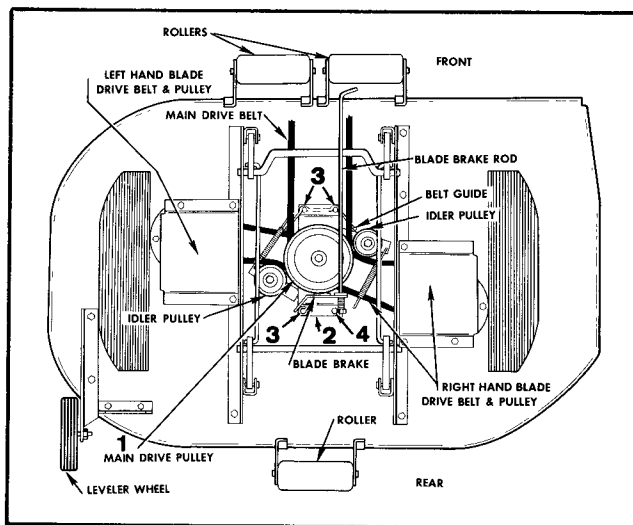

Figure 13. Mower Belt Installation
To make the blade belts accessible the main drive pulley (No. 1 Fig. 13) and the blade pulley bracket (No. 2 Fig. 13) must be removed. Remove the screw and the two (2) washers from the top of the shaft, loosen the set screw in the pulley and slide the pulley up off of the shaft. Remove the three (3) mounting bolts (No. 3 Fig. 13) and the blade brake mounting bolt (No. 4 Fig. 13) that hold the bracket to the mower deck and slide it off of the shaft. You need not remove the bearing housing & bearing from the bracket.
Remove the right hand and left hand pulley covers for access to the blade drive belts. (See figure 13.) Unhook the springs from the idlers. Remove belts from the outside pulleys first and then remove them from the center pulley. Replace in the reverse order. Be sure to hook the springs into the idler arms. Replace all of the components after the new belts have been installed.